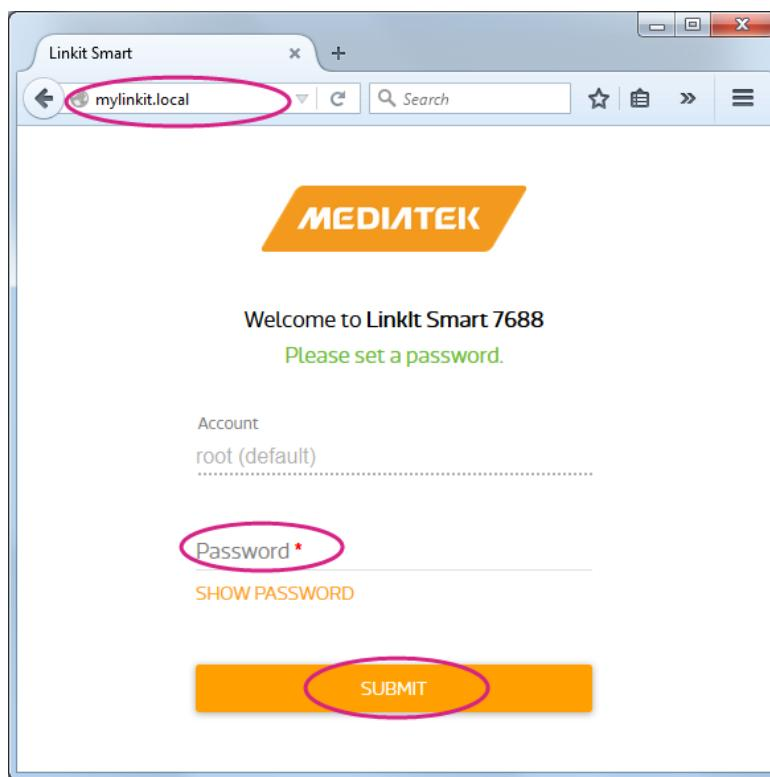

Figure 18 LinkIt Smart 7688 Web UI Sign In
- 3) In your web browser open <http://mylinkit.local>, as shown in Figure 18.